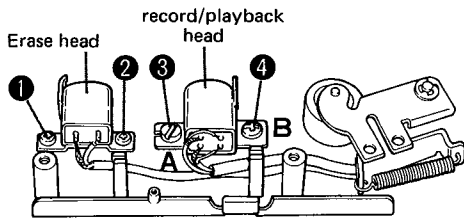

Fig. 12
2. Remove screws 1 and 2 in Fig. 12 and replace the erase head. After replacing the screws, apply lock paint to prevent them from becoming loose.
2. Remove screws 3 and 4 in Fig. 12 to remove the REC/PLAY head. The head may not come off after the screws have been removed because lock paint has been applied to points A and B in the figure; however, it can easily be removed by scraping off the lock paint.